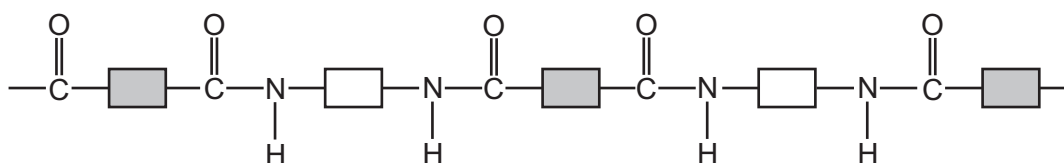

Fig. 6.1
(a) Part of the structure of a polyamide is shown in Fig. 6.1.
- (i) On Fig. 6.1, draw a circle around **one** amide linkage. [1]
- (ii) Complete Fig. 6.2 to show the structures of the **two** monomers needed to make the polymer in Fig. 6.1.